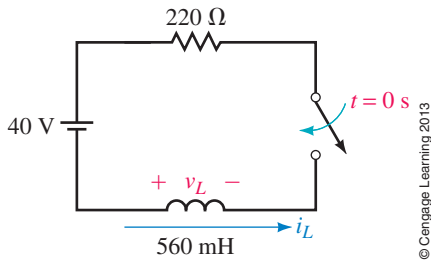

FIGURE 14-42
9. Close the switch at $t = 0$ s and determine equations for i_L and v_L for the circuit of Figure 14-42. Compute i_L and v_L at $t = 3.4$ ms.
10. Using Figure 14-10, find v_L at one time constant for the circuit of Figure 14-42.